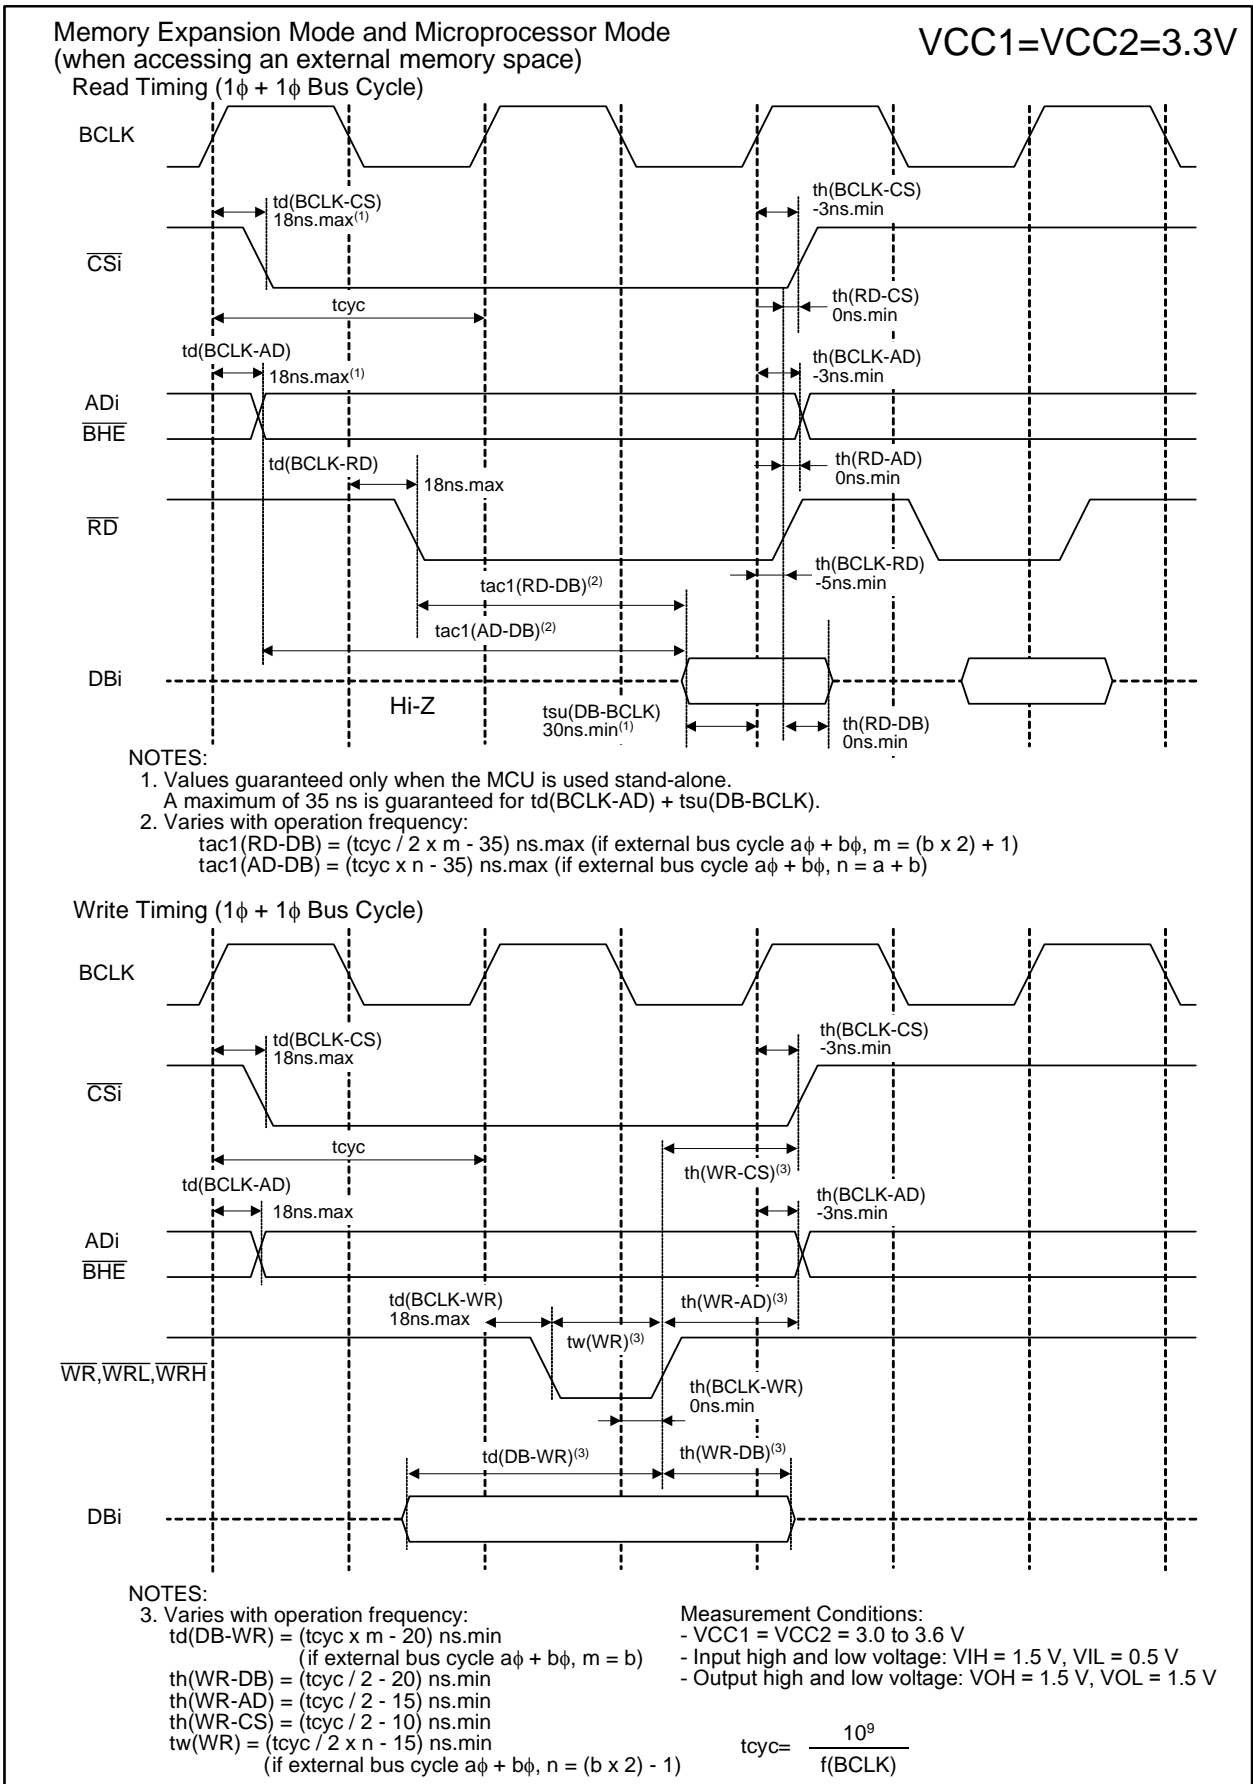

Figure 5.9 VCC1 = VCC2 = 3.3 V Timing Diagram (3)
73	<ul style="list-style-type: none"> • Figure 5.9 Vcc1=Vcc2=3.3V Timing Diagram (3) \overline{NMI} input diagram added